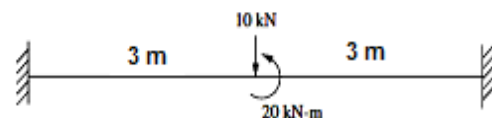

Figure-2
- (c) Determine the displacement and rotation under the force and moment located at the center of the beam in **figure-2** using stiffness member approach. Consider $E = 210\text{GPa}$ and $I = 4 \times 10^{-4} \text{m}^4$. **07**